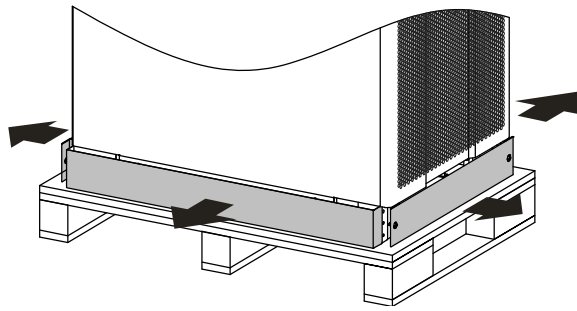
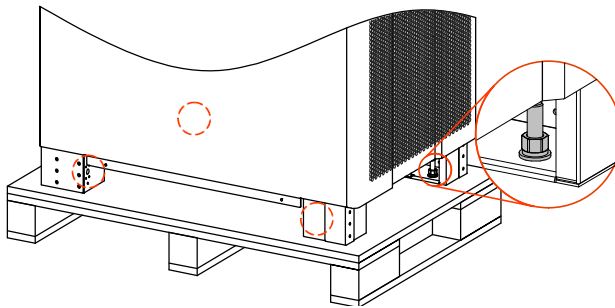

Figure3-8 Remove bottom cover plates
Figure3-9 Bolts position
- Step 4 Dismantle the bottom cover plates (as shown in Figure3-8), and unscrew the bolts that fasten the UPS and wood bracket, and then remove the bolts (as shown in Figure3-9).